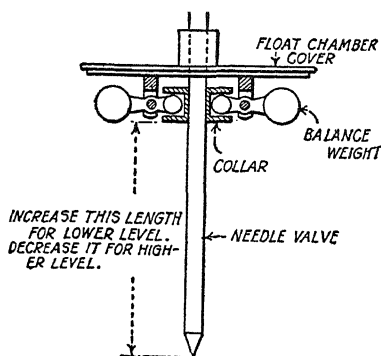
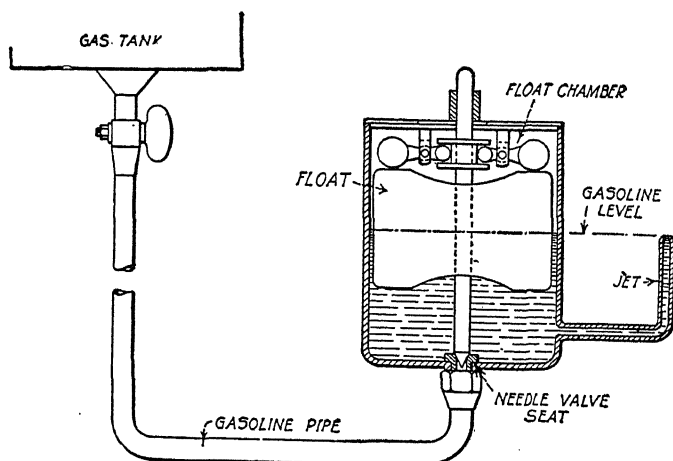

Fig. 163. Gasoline Level Control
Fig. 164. Testing the Level of Gasoline
**Mechanical Troubles and Cures.** The height of the gasoline is an important item in the operation of the carburetor. The correct level for the gasoline in the jet is on a level with the top or with a bead of gasoline on the top of the jet. The level is controlled by the length of the needle above or below the collar on the needle valve, Fig. 163. If the length of the needle is increased below the collar, the valve will shut off earlier and the level will be lower. If the length of the needle is decreased below the collar, the valve will shut later and the level will be higher. The result of too high a level will be flooding, while too low will cause hard starting or no starting at all. Fig. 164 shows how the level of the gasoline can be tested. In most carburetors the body of the device can be removed and the jet exposed to view. Take a small tank and place it up high so that there will be a good deal of pressure behind the